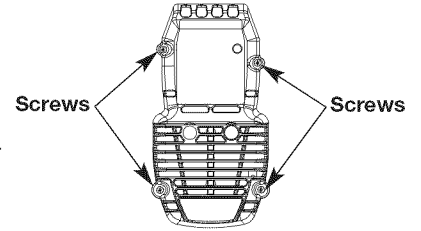

Fig. 12
- Remove the four (4) screws securing the air filter/muffler cover (Fig. 12). Use a flat blade or T20 Torx bit screwdriver.
8. Reinstall the air filter/muffler cover (Fig. 12).